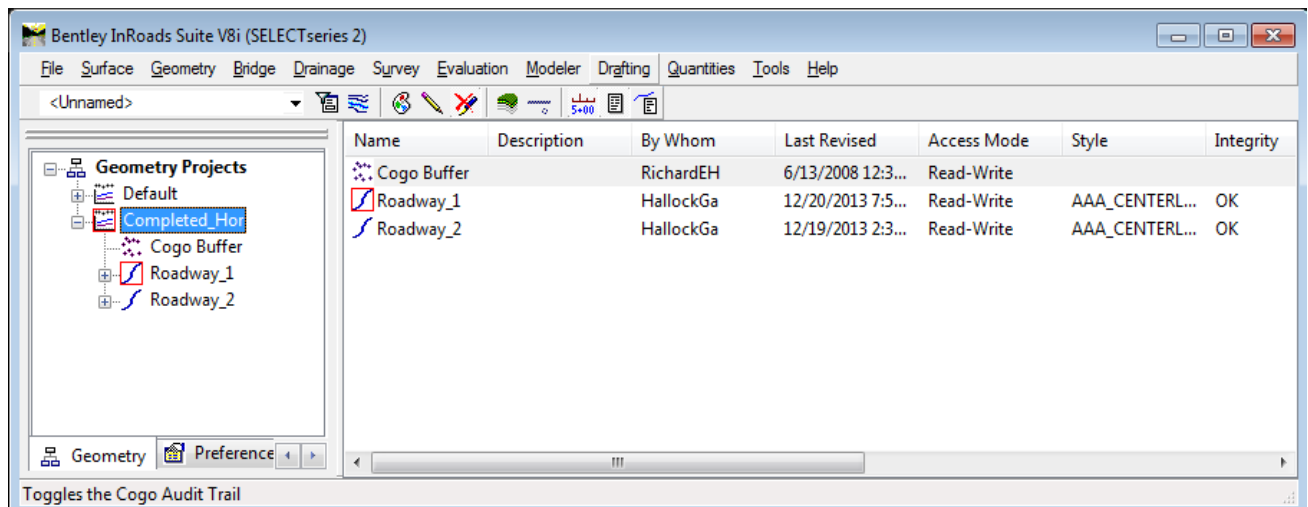

Figure 1-4 InRoads Interface
The left window, the Workspace Bar, contains a listing of active data. In Figure 1-4 the Geometry Project information is listed. The red square near the + symbol indicates the active Geometry Project. A right mouse click on geometry listed in the Geometry window will activate a shortcut dialog with options to Save, Copy, set Active, etc. Tabs at the bottom of the window allow users to toggle to the different data files types (i.e. Surface Data, Template Library File etc.) that are loaded with the project.
The right window displays information about data contained in the data file type (i.e. Geometry Projects). In Figure 1-4 there are two (2) horizontal alignments listed and the COGO buffer. Again, the red square indicates the active horizontal alignment. The importance of active data will